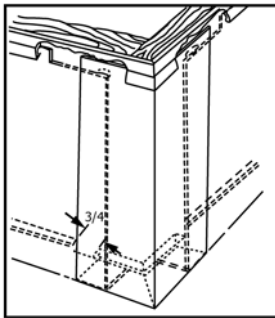

FIG. 38 Installation of Corner Cap
11.5.3 Punch the top edge of a corner cap with a snaplock punch. Hook the bottom ends of the cap over the fascia flange and push the top into the undersill trim slot to lock into place. (See Fig. 38.)